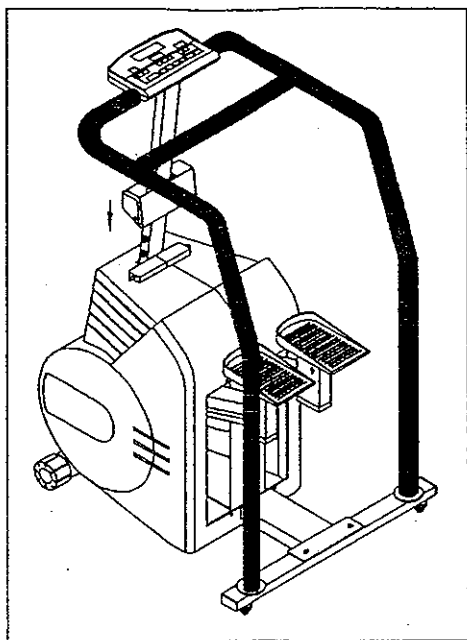

Fig. 17
7. Replace the post shroud, secure with two screws (see Fig. 17 & 18).